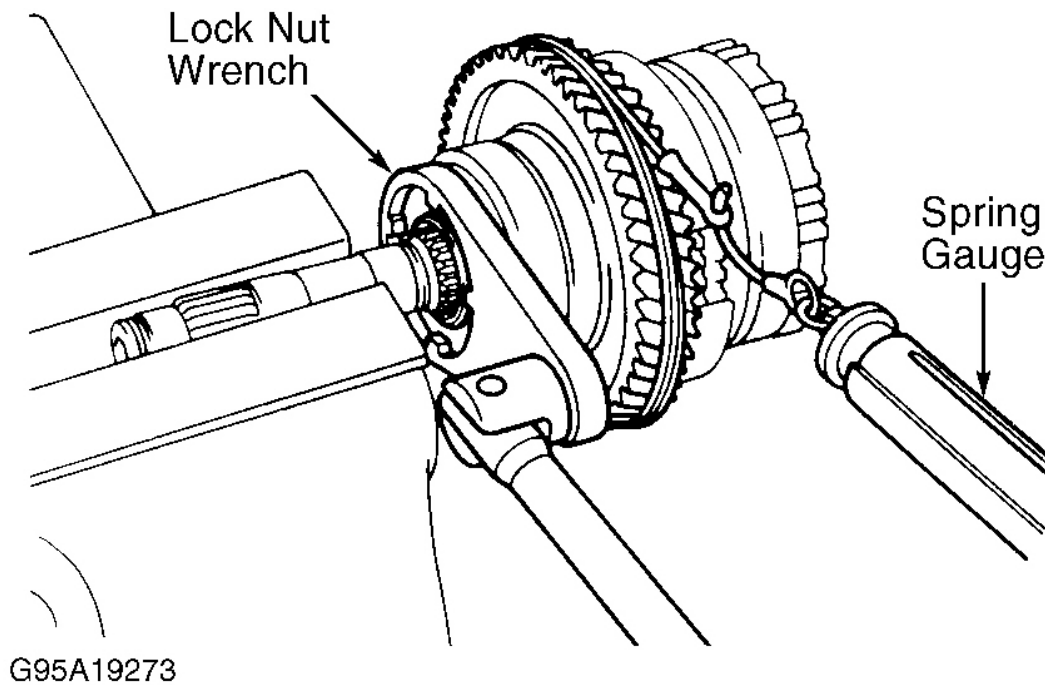

Fig. 42: Adjusting Preload Of Counterdrive Gear
6. Rotate counterdrive gear right and left several times before measuring preload. Torque adjusting nut until preload is 2.0-3.4 INCH lbs. (9-15 N). See **Fig. 42**. Bend lock washer tab until even with adjusting nut groove.